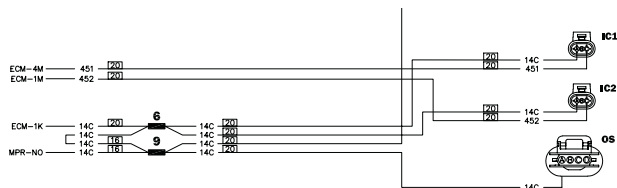

Figure 7-4. Ignition Coil Wiring Diagram
3. See Figure 7-4. Attach positive test lead to primary wire terminal 451 to measure resistance across coil number 1 and wire 452 to measure resistance across coil number 2.